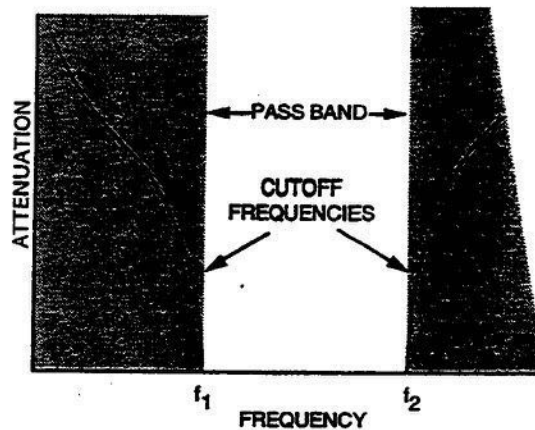

Figure 3-31. Band-pass filter characteristics.
**Band-pass filters.** A *band-pass* filter permits the passage of a band of frequencies lying between two predetermined frequencies, but attenuates all others. To obtain a pass region between two frequencies, neither of which is zero or infinite, use is made of a low-pass filter in cascade (series) with a high-pass filter. Figure 3-31 shows the desired pass band (pass region) of a band-pass filter. Attenuation is